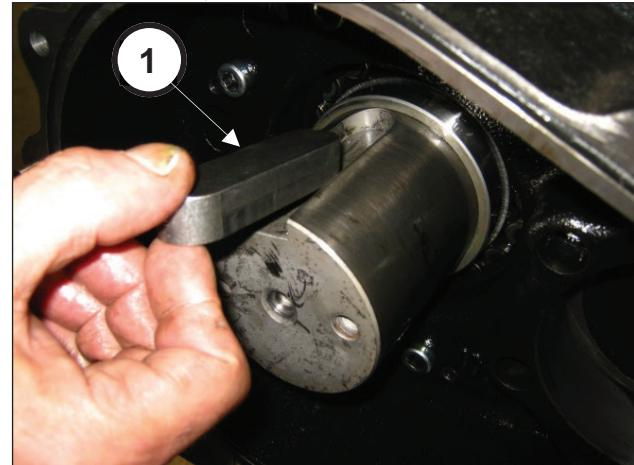

Fig. 74
Fit the 22x14x80 key in the shaft keyway (pos. ①, Fig. 74).